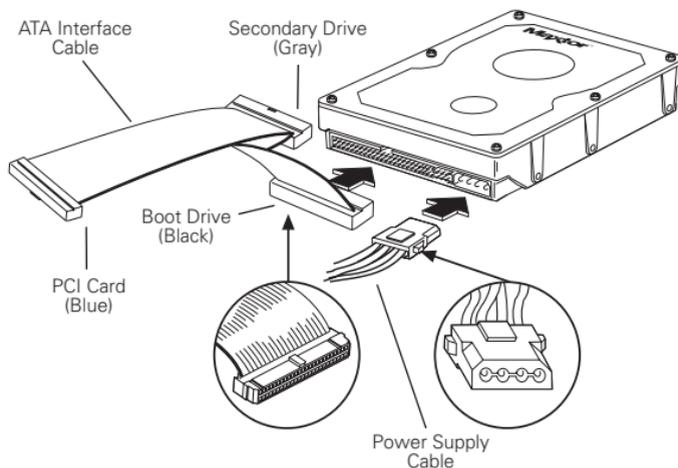

Figure 8
3. Your Serial ATA drive should be equipped with a 4-pin legacy power connector or a 15-pin SATA power connector. If the drive has a 4-pin legacy connector (as shown in Figure 8), connect an available 4-pin power plug from the system power supply to the drive as shown. If the drive has only a 15-pin power connector, use a SATA power adapter cable (*not included in all kits*) to convert a 4-pin power plug from the power supply into a 15-pin plug. Then attach the 15-pin plug to the 15-pin power connector on the drive.
3. Plug the black cable connector into the ATA connector on the rear of the hard drive. If you are connecting two Ultra ATA drives and wish to use one as a boot drive, plug the black cable connector into the boot drive and the gray connector into the other drive. If neither drive will be used as a boot drive, either the gray or black connector can be used. See Figure 8 below.